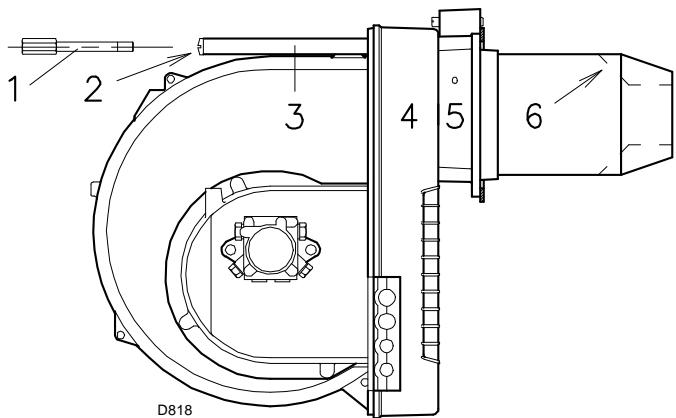

Fig. 14
- Finally remount the burner 4)(Fig. 14) to the slide bars 3) and slide it up to the flange 5), keeping it slightly raised to prevent the flameholder unit from pressing against the slide bars 6) of the blast tube.
- Tighten the screws 2)(Fig. 14) on the slide bars 3) and screw 1) that attaches the burner to the flange.